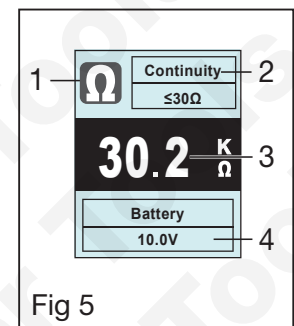

Fig 5
- Press the MODE button (G) to switch function to resistance measurement (refer to Figure 5).
- Connect the test probe and the auxiliary ground (earth) clip (K) to both sides of the test object, and read the value (3) from the screen.